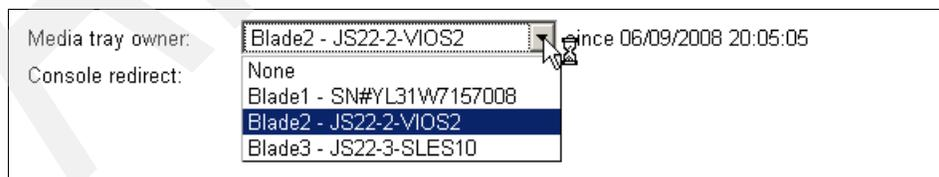

Figure 7-1 Start Remote Console panel
2. In the right panel look for Media Tray Owner and click the drop-down arrow to display the different blade bays. Select your blade bay location with the mouse as shown in Figure 7-1.